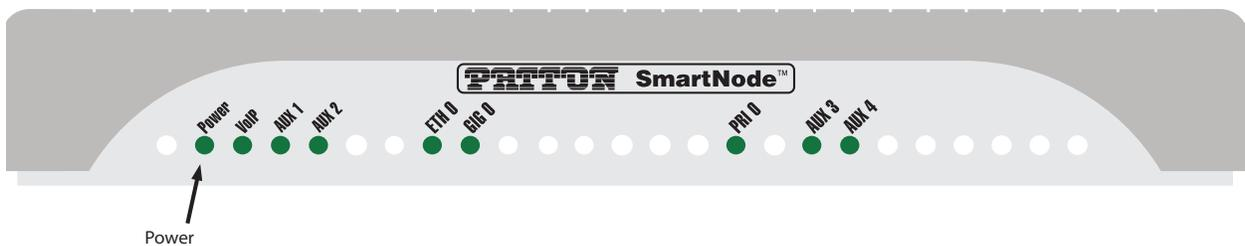

Figure 5. Power LED
4. Verify that the green *Power* LED is lit (see figure 5). Blinks fast during bootloader phase and blinks slow during boot process of Trinity Software. Becomes solid when the system is up and running.